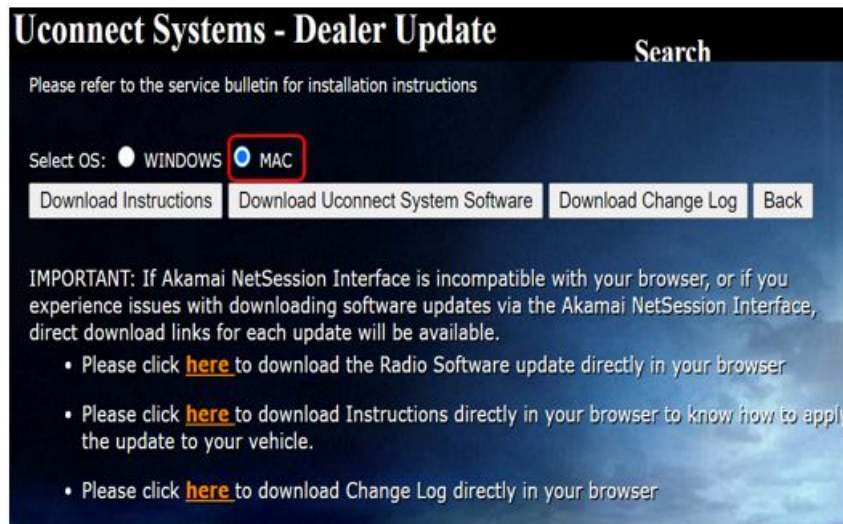

Fig. 1
4. Download the software update file to your local PC's desktop. Make sure to select the "MAC" radial button for all downloads (Fig. 1) .